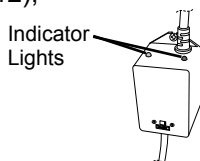

Figure 7
- Reinstall the black bulb boot (8) back over the quartz seal compression nut (7).
- Reinstall the enclosure cover (10) with gasket (9) and secure with the screws.
- Once power is activated you can check the ballast (12), Figure 7, to see if the CLEARRAY System is functioning. A solid green light indicates that the CLEARRAY System is being provided power and should always be on. A solid red light indicates that UV bulb is activated.